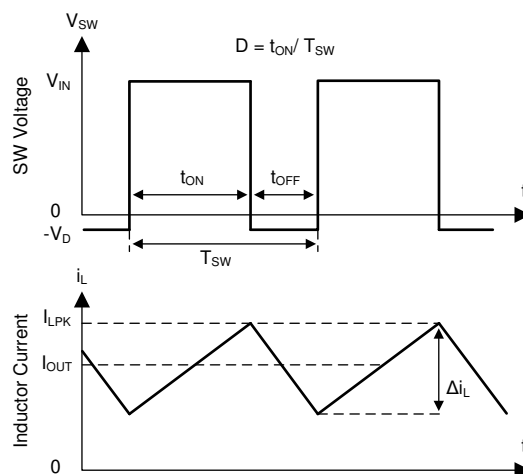

Figure 7-1. SW Node and Inductor Current Waveforms in Continuous Conduction Mode
The following operation description of the LM76005-Q1 refers to Section 7.2 and to the waveforms in Figure 7-1. The LM76005-Q1 supplies a regulated output voltage by turning on the internal high-side (HS) and low-side (LS) NMOS switches with varying duty cycle (D). During high-side switch on-time, t_{ON} , the SW pin voltage V_{SW} swings up to approximately V_{IN} , and the inductor current, i_L , increases with linear slope. The HS switch is turned off by the control logic. During the HS switch off-time, t_{OFF} , the LS switch is turned on. Inductor current discharges through the LS switch, which forces the V_{SW} to swing below ground by the voltage drop across the LS switch. The regulator loop adjusts the duty cycle to maintain a constant output voltage. The control parameter of a buck converter is defined as duty cycle $D = t_{ON} / T_{SW}$. In an ideal buck converter, where losses are ignored, D is proportional to the output voltage and inversely proportional to the input voltage: $D = V_{OUT} / V_{IN}$.